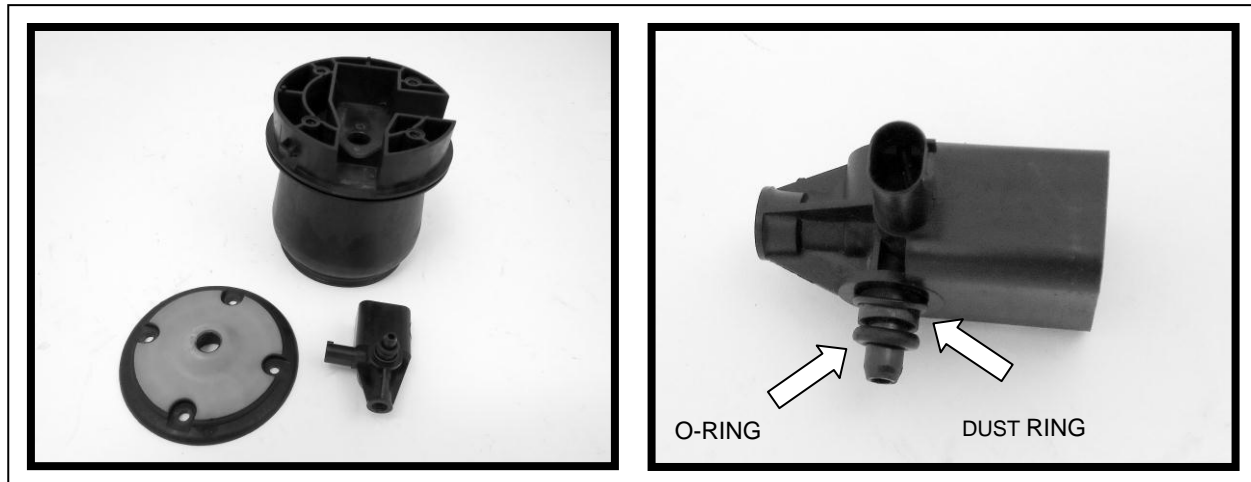

FIGURE 10-8
2.0 REMOVE SOLENOID AND O-RINGS. (FIGURE 10-8)